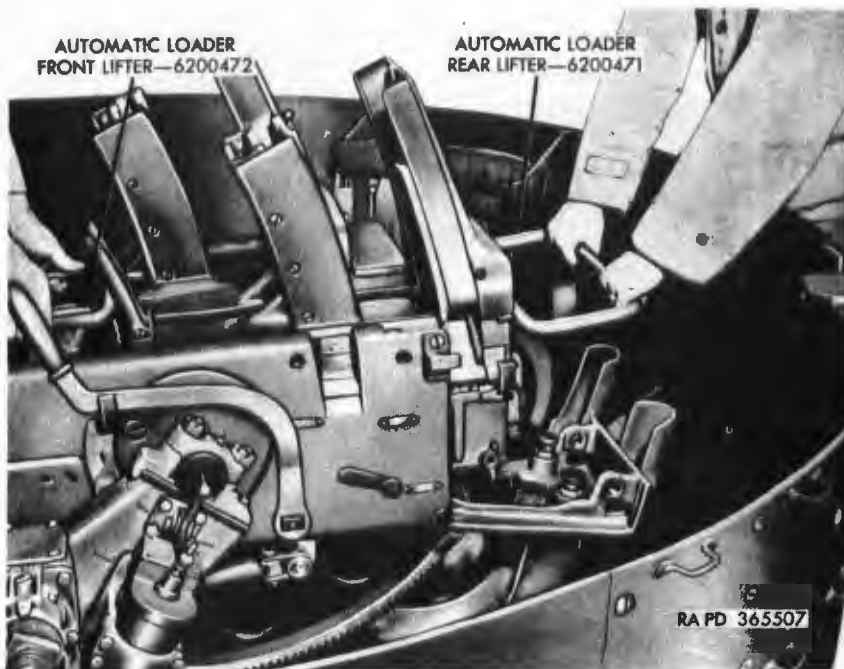

Figure 326. Removing or installing automatic loader.
- (11) Slide the entire automatic loader assembly approximately five inches to the rear to permit attachment of loader front lifter 6200472 and loader rear lifter 6200471 and attach the lifters (fig. 326).
- (12) With a man grasping each of the loader lifters, slide it backward on its rails out of the breech casing through the opening made by lowering the rear cover. Lift the automatic loader carefully to clean any obstruction.
- (1) With loader tray installed in loader, attach rear loader front and rear lifters (fig. 326) on the automatic loader.
- (2) Lift automatic loader and carefully place front ends of guides in guideways of breech casing.
- (3) Slide automatic loader forward until it is supported by the guideways.